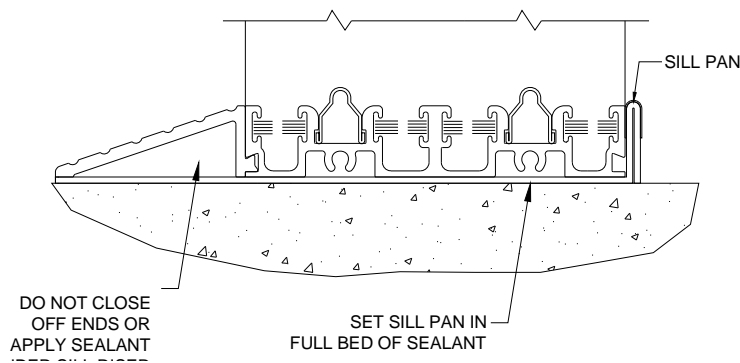

Figure 18:
1. Attach sill to the sillpan with a compatible sealant (Figure 17). Do not place sealant in or next to weep slots or weep holes cut or drilled in bottom of sill (Figure 18). Sealant that blocks weep slots will prevent sill from weeping.